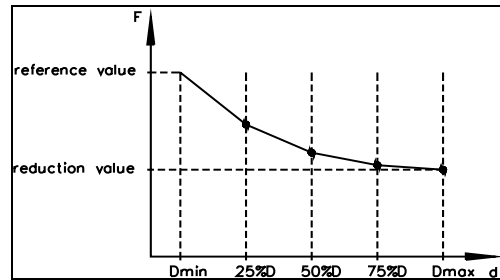

fig. 22: Parametrization of taper function
- Enter the corresponding values to the parameters *Reference 25%Dia*, *reference 50%Dia*, *Reference 75%Dia* and *Reference D max.* to get the desired characteristic line (ref. fig. 22).